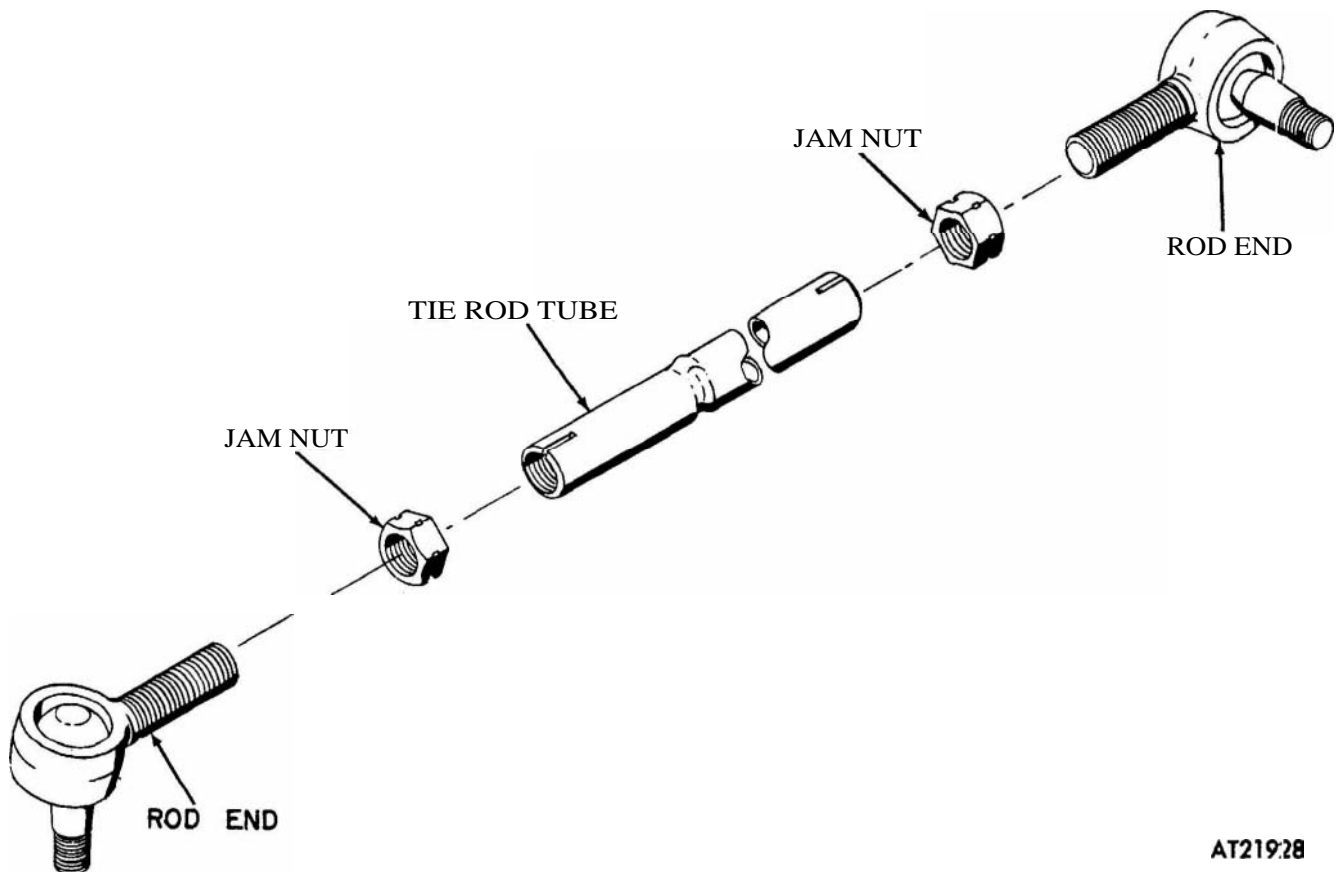

Figure 2-275. Tie rod, disassembly and assembly.
- (1) Loosen jam nuts securing rod ends to tie rod tube (fig 2-275).
- (2) Remove rod ends from tie rod tube. Remove jam nuts from rod ends.
- (1) Install jam nuts on rod ends and install on tie rod tube (fig 2-275).
- (2) Adjust rod ends to attain measurement of $17-5/32 \pm 1/32$ inches (between centers of rod ends). Secure rod ends by tightening jam nuts against tube.